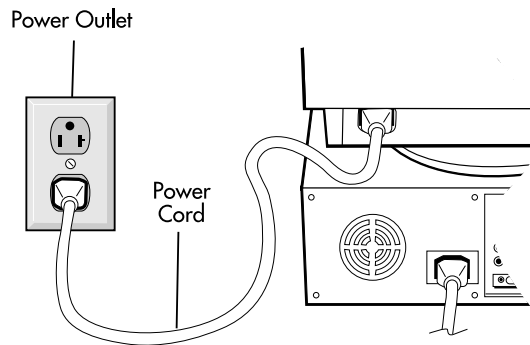

Figure C.1
**NOTE: To obtain the MultiSync FE750+ Macintosh cable adapter, call NEC-Mitsubishi Electronics Display of America, Inc. at (800) 820-1230.**
5. Connect one end of the power cord to the MultiSync FE750+ monitor and the other end to the power outlet (**Figure C.1**).